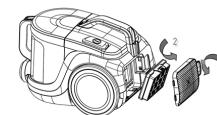

Fig. 4
1. Press to open the air outlet grille at the back of the vacuum cleaner and remove it (Fig. 4).